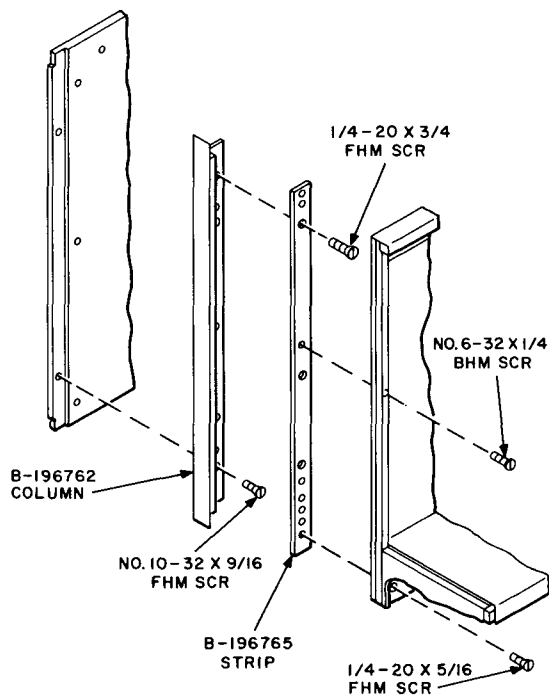

Fig. 8 — Partial View of Shelf Assembly
- (d) Remove the following per Fig. 8: